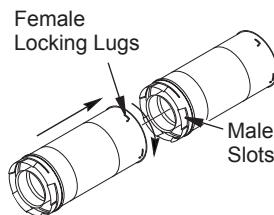

Figure 9 - Vent Pipe Connections
Twist-Lock Procedure: Female ends of pipes have locking lugs (indentations). These lugs will slide straight into matching slots on male ends of adjacent pipes. Push pipe sections together and twist one section clockwise approximately one-quarter turn until sections are fully locked (see Figure 9).
etrated is constructed of noncombustible material, such as masonry block or concrete, a $8\frac{1}{2}"$ hole with zero clearance is acceptable (see Figure 9).
2. Assemble desired lengths of pipe and elbows necessary to reach from fireplace flue up through firestop. Be sure all pipe and elbow connections are fully twist-locked (see Figure 9, page 11).